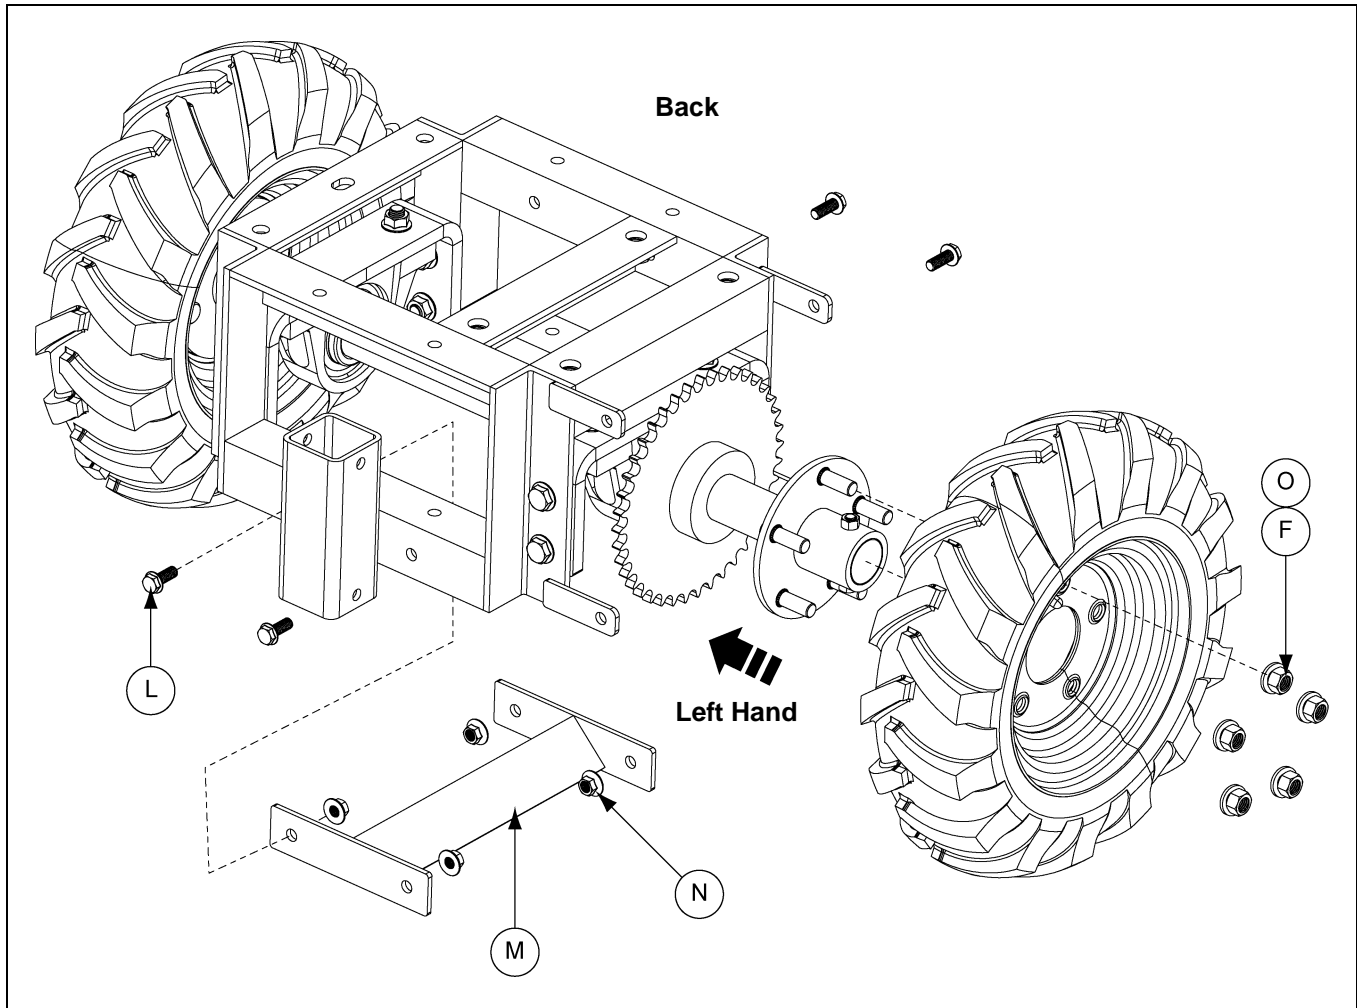

Figure 4C
NOTE: Remove the screws or nails that are present in the tires to contain the foam in the tires when they are made. The treads of the tires should be in the forward direction. *Figure 4C* shows the proper orientation of the tire and wheel assemblies.
8. Assemble the strut bracket (M) to the tractor frame using four (4) 3/8"-16 x 1" flange bolts (L) and serrated flange nuts (N). (See *Figure 4C*.)